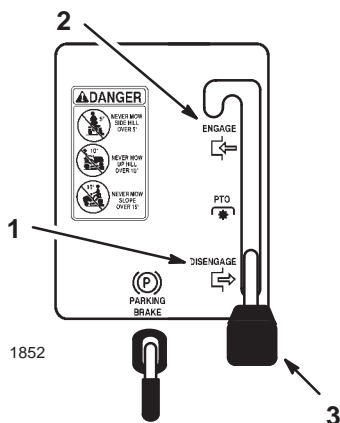

Figure 4
2. Move the blade control (PTO) to Engaged (Fig. 4).
2. Move the blade control (PTO) to Disengaged (Fig. 4).